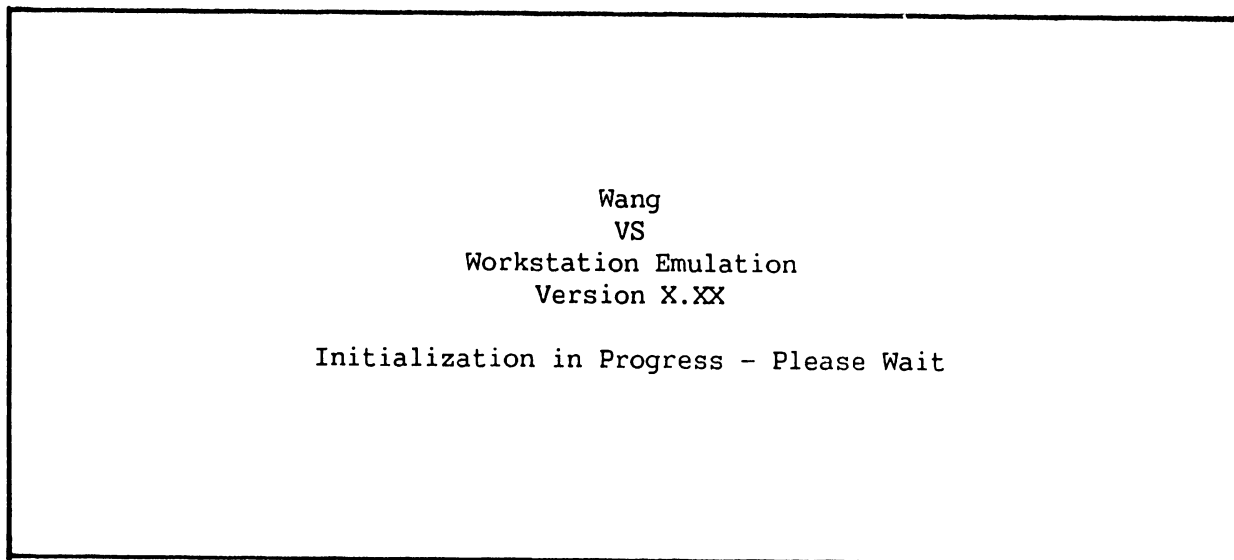

Figure 4-3. Workstation Initialization Screen
11. The Workstation Initialization screen, figure 4-3, appears.